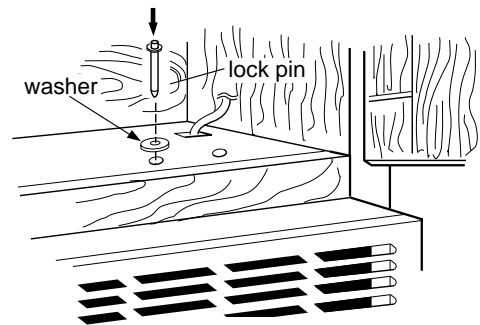

Figure 33
3. Drop the lock pin and washer assembly into hole **N** (left side hole) and push the pin down as far as it will go. See Figure 33.